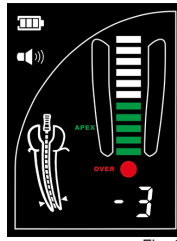

Fig. 2
4. Confirm all bars appear in the indicators on the screen and the number “-3” is displayed. (Fig. 2)